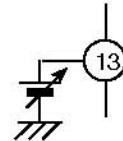

Fig.2
5. Swicth(Pin13) can be changed by supplying some voltage as Fig.2.